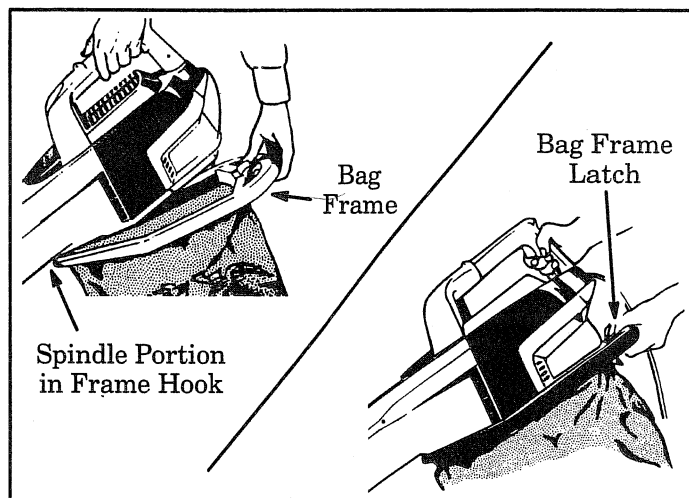

Figure 1
1. Catch the spindle portion of the bag frame in the frame hook on the underside of housing. Figure 1.
2. Lift the bag frame handle until the bag frame latch snaps into place on the bottom of the unit. Figure 1.